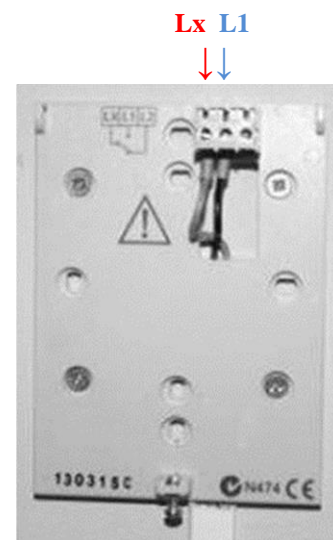

Fig. 7
- Connect the two thermostat wires to point Lx and L1 (Fig. 7)